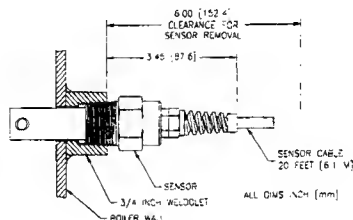

FIGURE 2-2 Installing Sensor Into Vessel Wall Using a Weldolet
| Figure 2-2 | Installing Sensor Into Vessel Wall Using a Weldolet ..... | 8  |
- Install the sensor into the vessel or pipe run so that the process flow directly contacts the end of the sensor (see Figure 2-2).
1. Refer to Figure 2-2, and install a 3/4-inch NPT weldolet into the vessel wall.